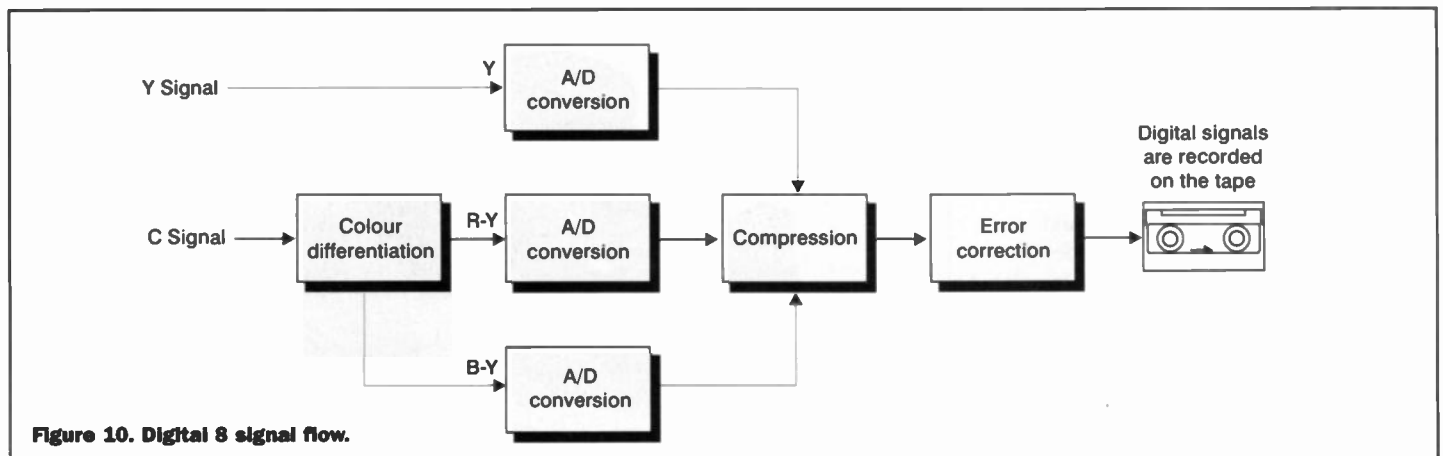

Figure 10. Digital 8 signal flow.
The component digital signal consists of luminance (Y) and the colour difference signals (R-Y and B-Y) - Figure 10 shows the signal flow. Once in component form the signals are sampled: Y at 13.5MHz, and colour at 6.75MHz; but the latter only on alternate lines, giving a 4:2:0 sampling structure (NTSC samples both colour signals at 3.375MHz on every line, giving 4:1:1). Each of the three components is then quantised to 8-bits. And converted into binary notation to become the digital signals. These are then compressed using a discrete cosine transform (DCT) based system for its ease of computation. Coding is on an intra-frame basis, that is the frame is treated as a unit rather than as two discrete fields, which is more economical, but does mean that unwanted motion artefacts can occur with rapid subject movement. The output ratio is 5:1. Error correction is then